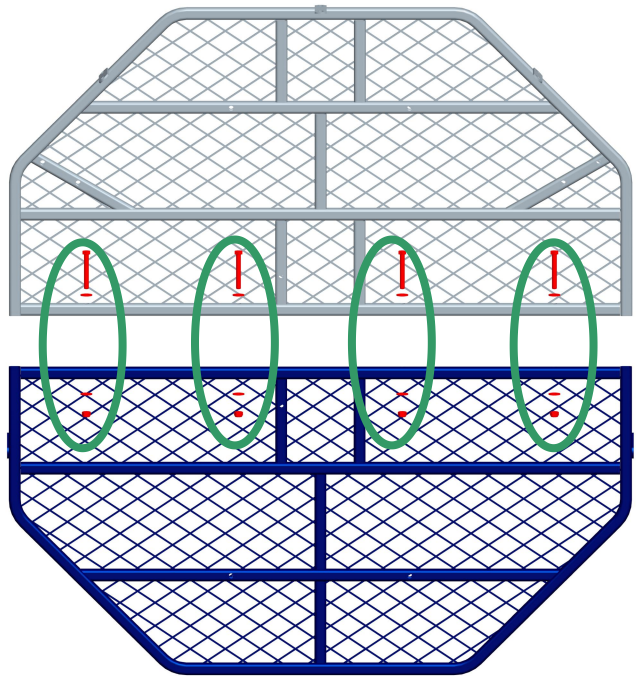

Figure 1
Locate the Front Platform (#1) and Back Platform (#2). Install the Front Platform (#1) and Back Platform (#2) using four (4) M8x60 Bolts, eight (8) Steel Washers and four (4) Locknuts as shown in Figure 1.